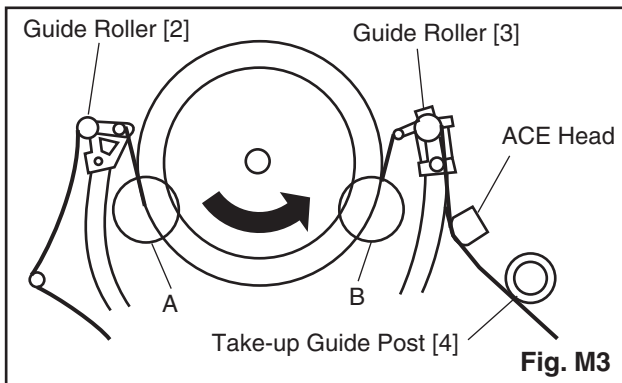

Fig. M3
1. Playback a blank cassette tape and check to see that the tape runs without creasing at Guide Rollers [2] and [3], and at points A and B on the lead surface. (Refer to Fig. M3 and M4.)
2. If creasing is apparent, align the height of the guide rollers by turning the top of Guide Rollers [2] and [3] with a Guide Roller Adj. Screwdriver. (Refer to Fig. M3 and M5.)
3. Check to see that the tape runs without creasing at Take-up Guide Post [4] or without snaking between Guide Roller [3] and ACE Head. (Fig. M3 and M5)
- Playback the Gray Scale on the Alignment Tape (FL6NS8). Set the Tracking Control Circuit to the preset position by pressing [PROGRAM ^] button and then [▶] (VCR) button on the unit. Adjust the height of Guide Rollers [2] and [3] (Fig. M3, Page 2-3-3) watching the oscilloscope display so that the envelope becomes as flat as possible. To do this adjustment, turn the top of the Guide Roller with the Guide Roller Adj. Screwdriver.
- If the envelope is as shown in Fig. M8, adjust the height of Guide Roller [2] (Refer to Fig. M3) so that the waveform looks like the one shown in Fig. M10.
- If the envelope is as shown in Fig. M9, adjust the height of Guide Roller [3] (Refer to Fig. M3) so that the waveform looks like the one shown in Fig. M10.
- When Guide Rollers [2] and [3] (Refer to Fig. M3) are aligned properly, there is no envelope drop
Note: Upon completion of the adjustment of Guide Rollers [2] and [3] (Refer to Fig. M3), check the X Value by pushing the [PROGRAM ^] or [PROGRAM v] buttons on the unit alternately, to check the symmetry of the envelope. Check the number of pushes to ensure preset position. The number of pushes of the [PROGRAM ^] button on the unit to achieve 1/2 level of envelope should match the number of pushes of the [PROGRAM v] button on the unit from center. If required, redo the "X Value Alignment."